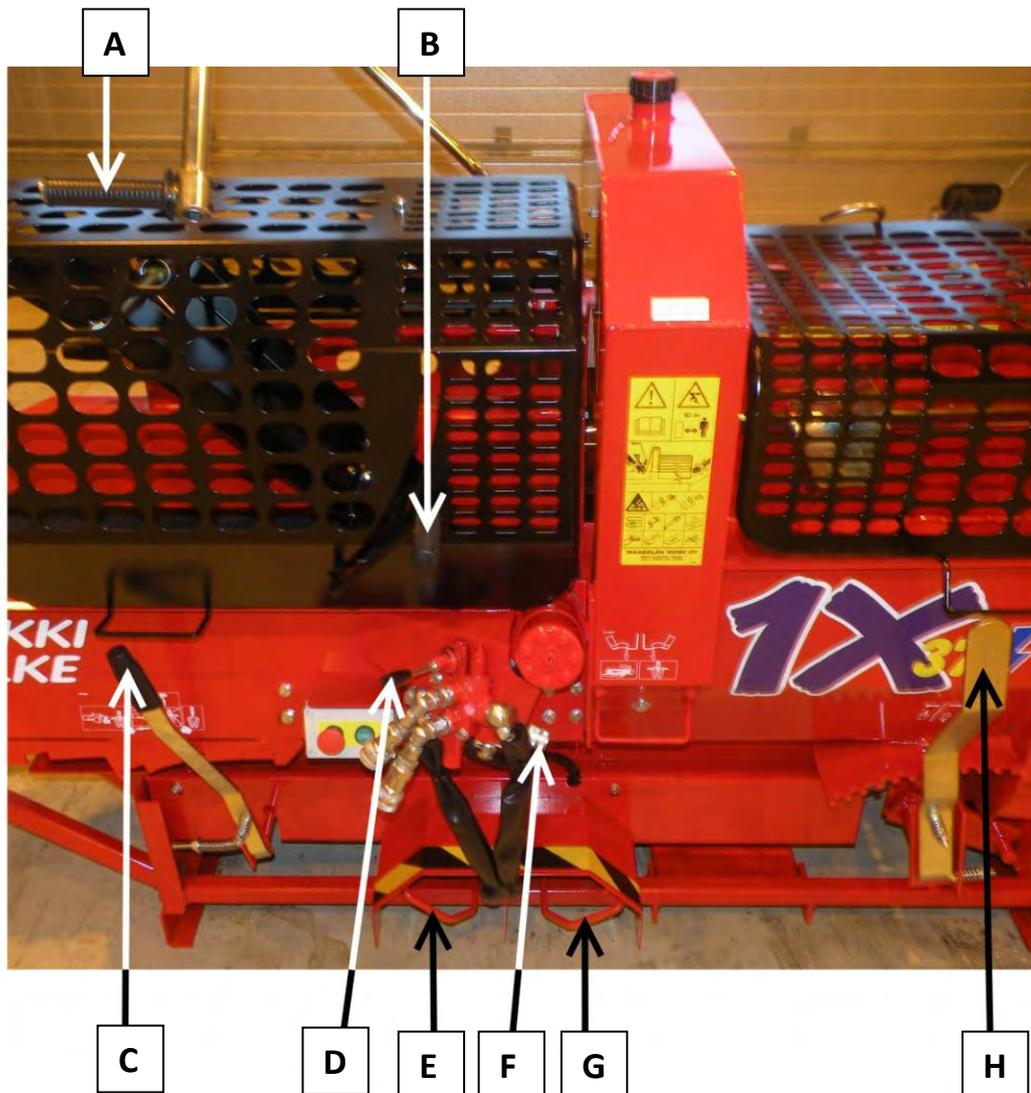

Figure 19. The control devices of the machine (basic model)
The control devices of the Hakki Pilke 1X37 log splitter (basic model) are presented in Figure 19. The names and functions of the control devices are as follows:
1. To adjust the length of the wood to be cut, set the operating lever C (Figure 19) to the Stop position, which enables you to open the guard of the splitting blade.
If the Hakki Pilke 1X37 log splitter is equipped with a pivoting output conveyor, the belt of the output conveyor is driven by a hydraulic motor. To change the speed of the belt, use the adjuster **F** shown in **Figure 19**. The following describes how the conveyor can be turned laterally by using the turning lever **A** and handle **B**: